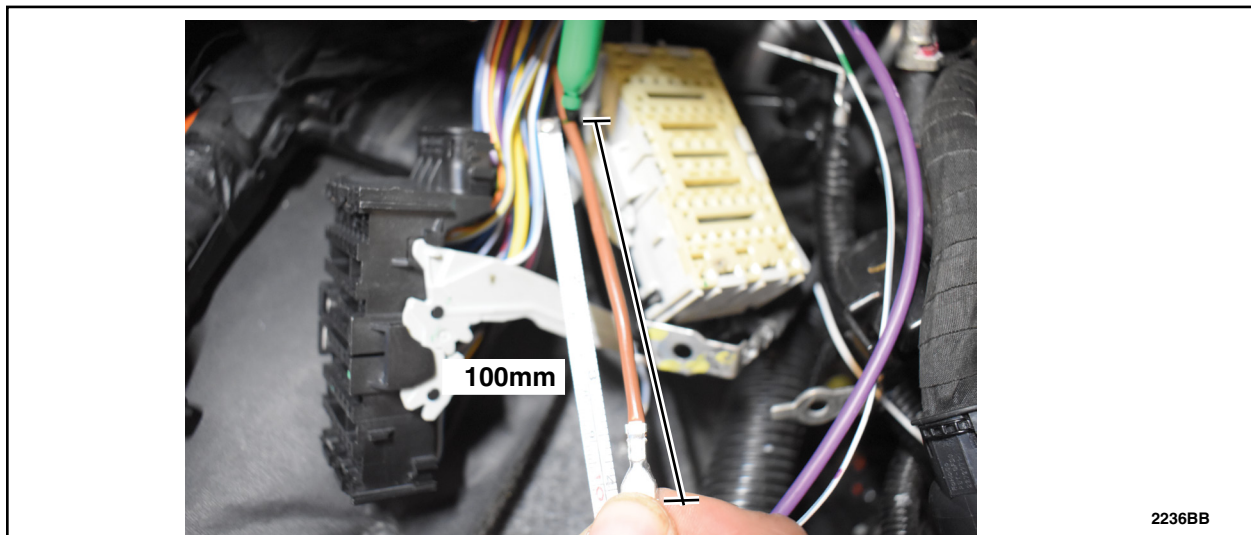

FIGURE 34
40. About 100mm down, on the identified wire, mark the wire to prepare to insert new wire from aux box wiring harness. See Figure 34.